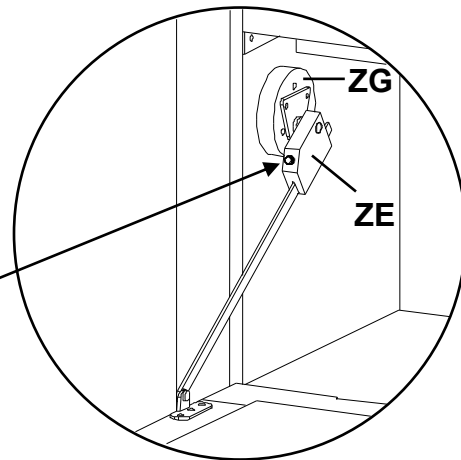

Fig. 14
14. Open the Door (Rc). To adjust the brake tension on the Door Stay (ZE) turn the screw on the Door Stay Support (ZG) clockwise to loosen or counterclockwise to tighten. See Figures 14 and 14a.